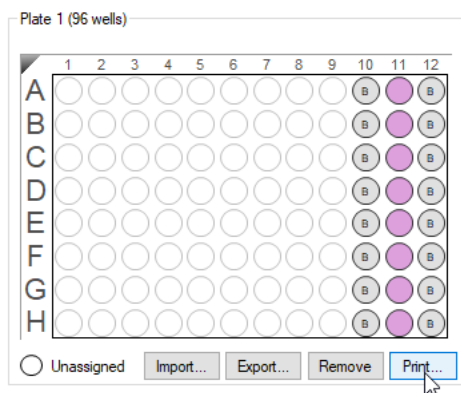

Figure 9-24: Sample Plate Print Button
1. In the **Sample Plate Map** (see Figure 9-24), click **Print**.